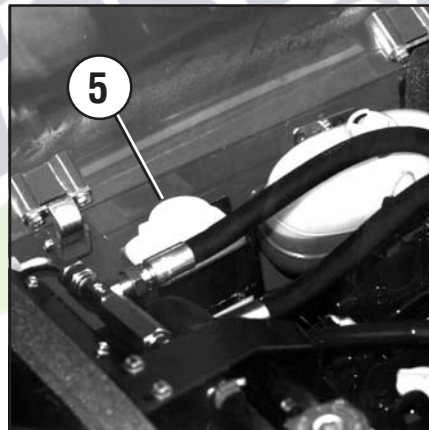

Fig. 10
- Windscreen wash liquid tank (5 Fig. 10)
Located in the engine compartment (5 Fig. 10).